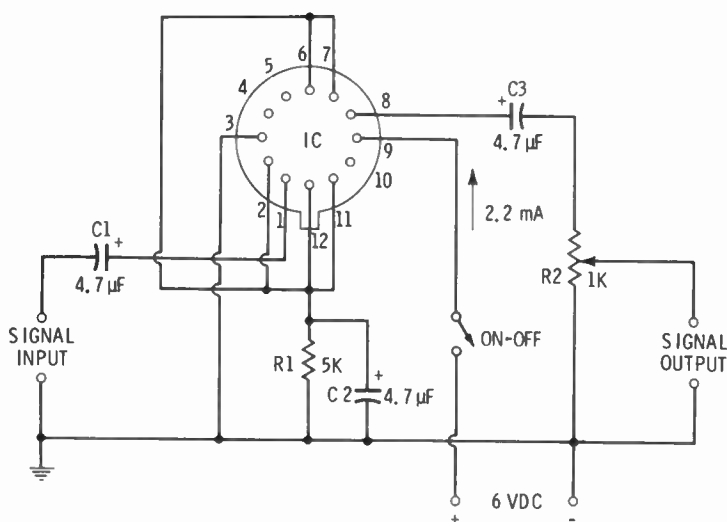
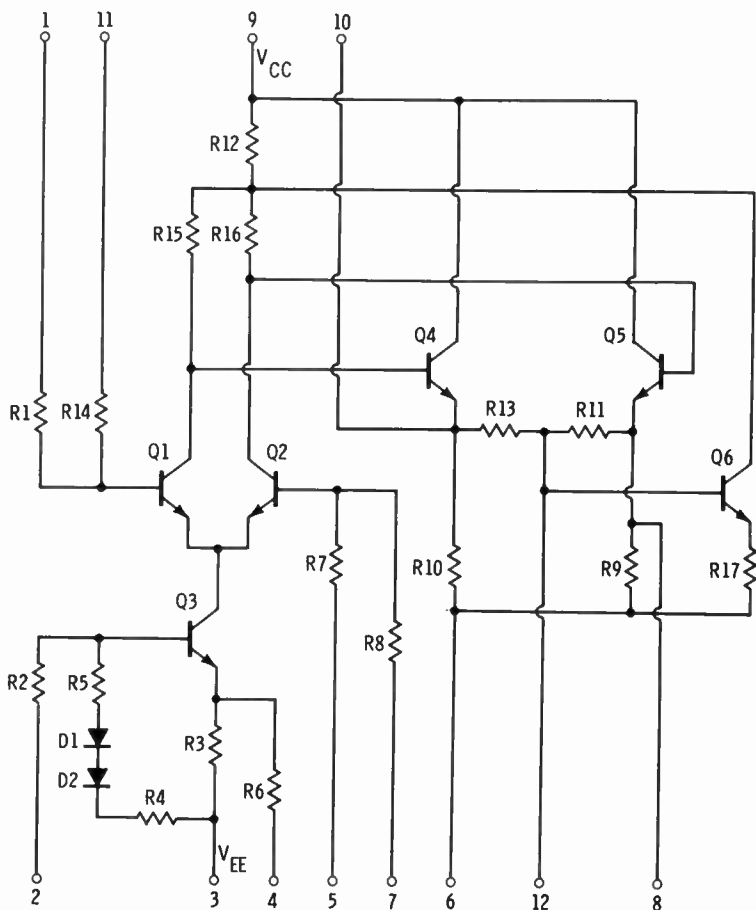
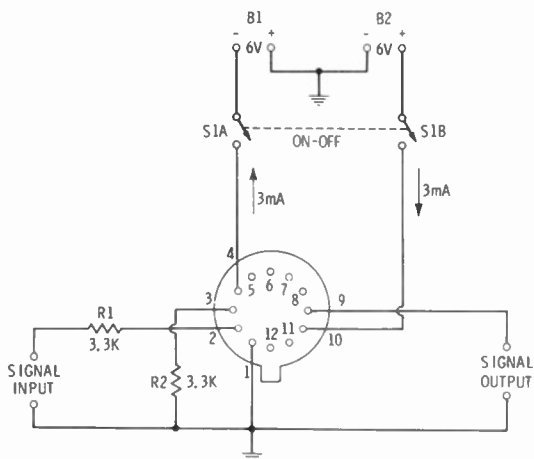

Fig. 3-3. Circuit of the simple audio preamplifier.
Fig. 3-4. Circuit of the RCA CA 3007 IC used in the preamplifier. (For base connections, see Fig. 1-13, Chapter 1.)
Fig. 4-3. Circuit of the high-gain preamplifier.
Fig. 3-1 is a view of the completed preamplifier with the IC plugged-in and the battery connected. Figs. 3-2 A and 3-2 B show the layout of components, and wiring; and Fig. 3-3 is the circuit diagram. For convenience in understanding the preamplifier circuit, Fig. 3-4 gives the internal circuit of the RCA CA3007 integrated circuit used in this project.
This preamplifier (Fig. 3-3) employs an RCA CA3007 IC and only five outboard components: capacitors C1, C2, and C3; resistor R1; and potentiometer R2. Response of the circuit is flat within 2 dB from 20 Hz to 20 kHz. When potentiometer R2 is set for maximum gain, the maximum signal-input voltage before output distortion begins is 0.04 volt rms, and the corresponding maximum signal-output voltage is 0.4 volt rms (this corresponds to an open-circuit voltage gain of 10). With a single 9-volt DC supply, the current drain is 22 mA under both zero-signal and maximum-signal conditions. Use of a transistor-type battery therefore is entirely feasible. The low-impedance output favors feeding the output signal into a low impedance line, which practically eliminates hum pickup. Placement of the gain control at the output, rather than the input, reduces the probability of potentiometer noise appearing in the output.
Fig. 3-4 shows the internal circuit of the CA3007. Note that this IC contains two identical direct-coupled amplifier stages (Q1 feeding Q4, and Q2 feeding Q5). Each output stage has emitter-follower output. Transistor Q3, diodes D1 and D2, and the associated resistors form the stabilizing current sink. Transistor Q6 and resistors R11, R12, R13, and R17 stabilize the quiescent operating voltage at the output terminals (8 and 10) against variations of temperature and supply voltage. An input signal may be applied to input transistor Q1 through terminal 1, while the input terminal (No. 7) of input transistor Q2 is AC-grounded. As a result, Q1 and Q2 drive Q4 and Q5 in push pull and constitute an amplifier-type input phase splitter.
In the preamplifier circuit (Fig. 3-3), the external jumper between IC terminals 6 and 12 connects R9 and R11 in parallel and R10 and R13 in parallel. This allows outboard resistor R1 to serve partially as a common-emitter bias resistor for output transistors Q4 and Q5. The output signal is taken from one emitter-coupled output transistor (Q5).
7. Wire the underside of the board (follow the wiring diagram in Fig. 3-3 and the pictorial diagram in Fig. 3-2B), and solder the leads of the battery clip to the DC-supply terminals above board. Note that the bottom view of the IC socket is given in the layouts, and that terminal 12 is identified by a dot on the Augat socket. For wiring, use a thin, insulated, stranded hookup wire; thicker wire is too large for the closely spaced IC socket ter-
Fig. 4-1 is an overall view of the completed preamplifier with the IC plugged in and batteries connected. Figs. 4-2A and 4-2B show the layout of components, and Fig. 4-3 is
This preamplifier (see Fig. 4-3) employs the CA3010 IC with only two outboard components—resistors R1 and R2. If a gain control is desired, a 1000-ohm potentiometer may be connected in the output circuit in the same way shown in Fig. 3-3. If the preamplifier is used without input and output coupling capacitors, its frequency response is flat within 1 dB from DC to 200 kHz. In some applications, however, both capaci-
8. Wire the underside of the board (follow the wiring diagram in Fig. 4-3 and the pictorial diagram in Fig. 4-2B). Note that the bottom view of the IC socket is given in the drawings, and that terminal 12 is identified by a dot on the top of the Augat socket. For wiring, use a thin, insulated, stranded hookup wire; thicker wire is too large for the closely spaced IC socket terminals. For those portions of the wiring that require no insulation (such as the common "ground" bus between SIGNAL INPUT and SIGNAL OUTPUT terminals from the bottom of R1 to socket terminal No. 1), use solid, tinned, No. 22 wire.